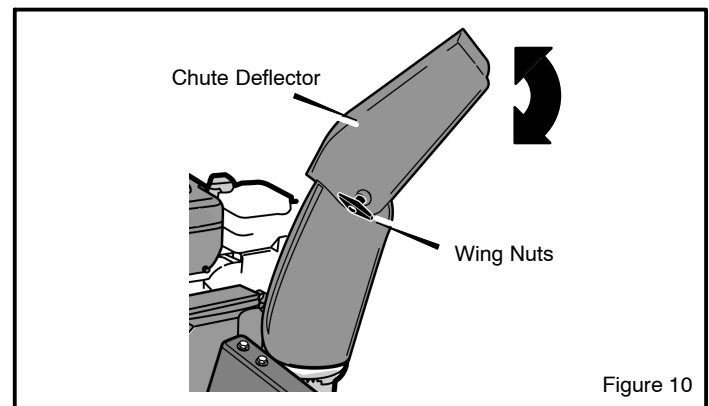

Figure 10
2. Adjust the **snow chute deflector**. Loosen the **wing nut** on the side of the **snow chute deflector**. Raise the **snow chute deflector** for more distance or lower for less distance. Tighten **wing nut**. (see Figure 10).